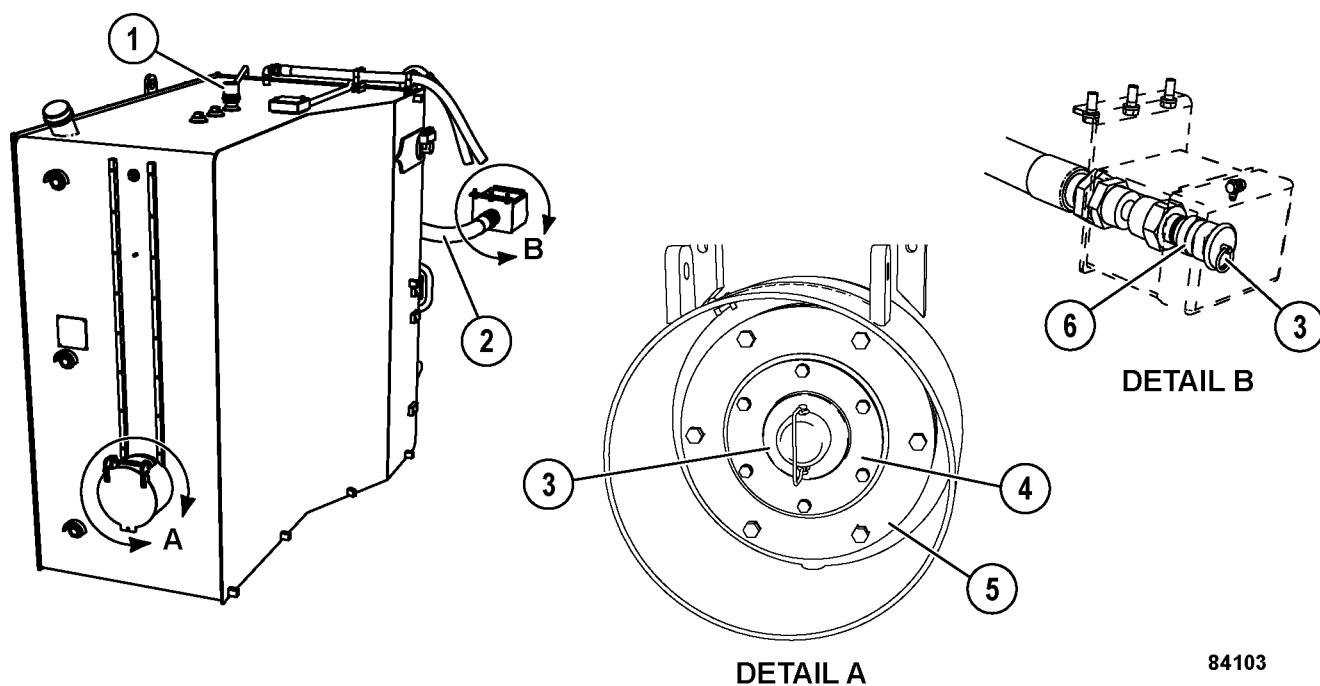

FIGURE 4-6. FUEL GAUGE SENDER & QUICK FILL FUEL
Fuel receiver assembly (4, Figure 4-6) is mounted on the RH face of the fuel tank. If equipped, fuel receiver assembly (6) is mounted to the bottom of the hydraulic tank. It is connected to the rear of the fuel tank by hose (2).